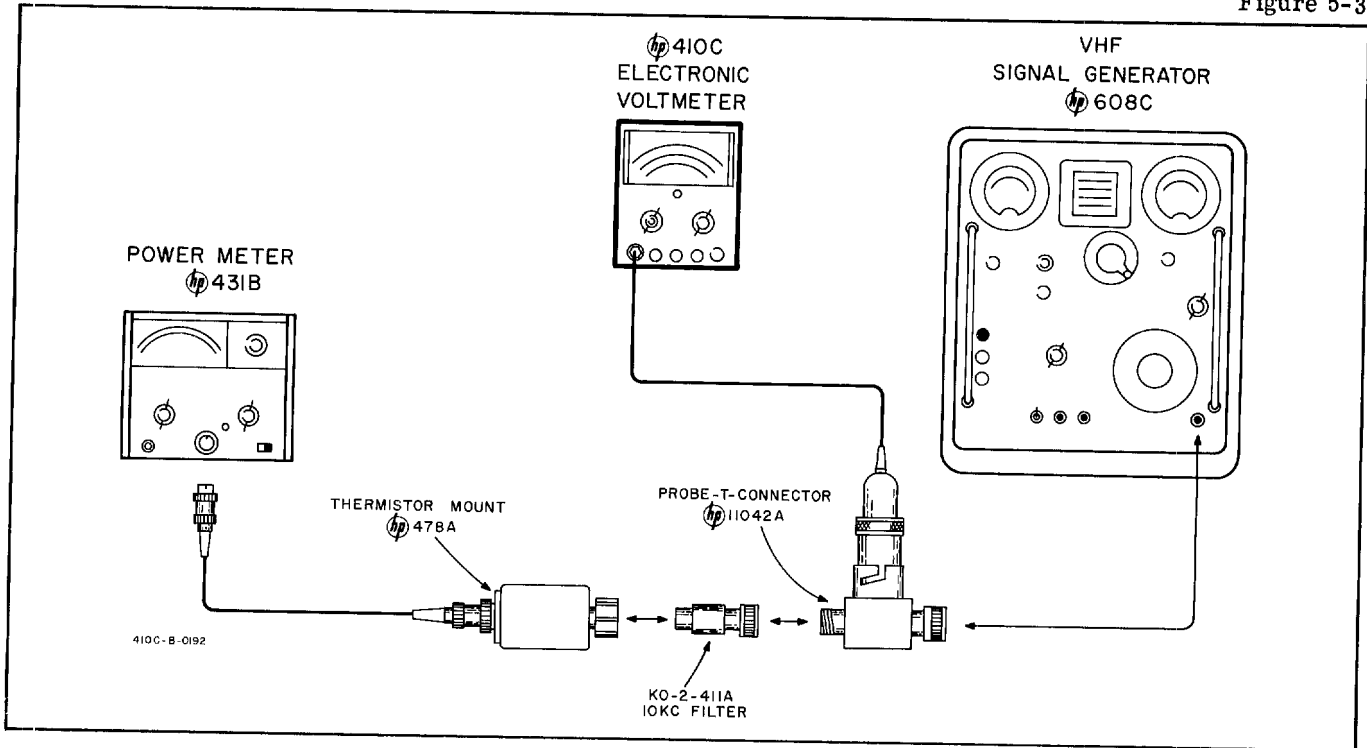

Figure 5-3. High Frequency Response Test
- a. Figure 5-3 describes the test arrangement required for this operation. Do not place Model 410C AC Probe in T-Connector at this point.
- a. A Frequency Response Test Set (HP Model 739AR), a Test Oscillator (HP Model 651A), an RF Signal Generator (HP Model 608C), a Power Meter (HP Model 431B), a Thermistor Mount (HP Model 478A), a Probe-T-Connector (HP Model 11042A), a VHF Signal Generator (HP Model 612A) and a 10 KC Filter (HP Model K02-411A) will be required for this operation. Figure 5-3 and 5-4 describe the arrangement to be used.
h. To check Model 410C frequency response from 10 Mc to 480 Mc, use arrangement described in Figure 5-3.